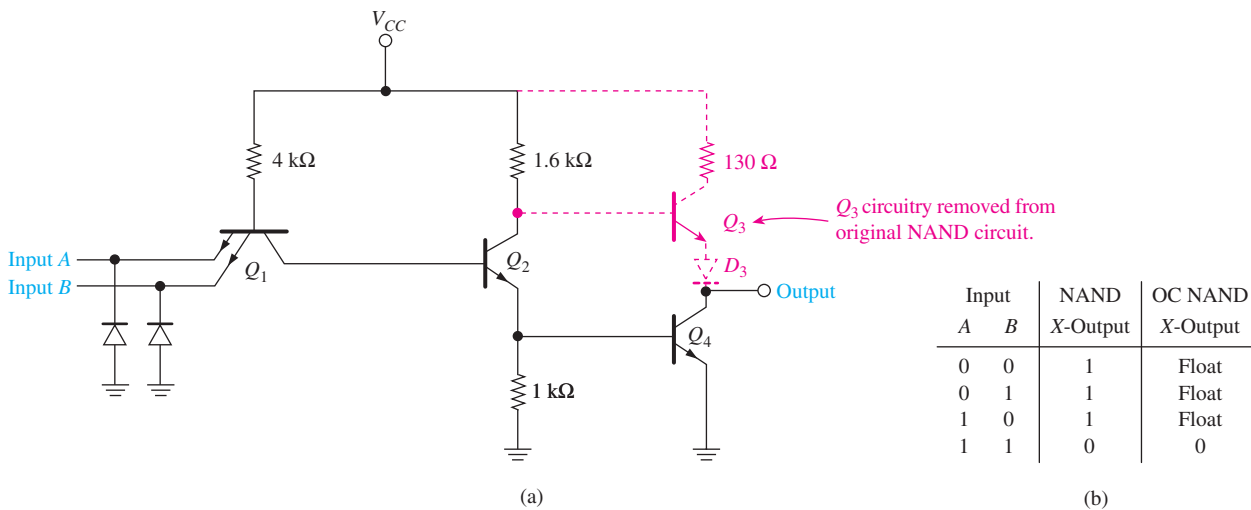

Figure 13 TTL NAND with an open-collector output: (a) circuitry; (b) truth table.
Instead of using a totem-pole arrangement in the output stage of a TTL gate, another arrangement, called the **open-collector (OC) output**, is available. Remember that, with the totem-pole output stage, for a LOW output the lower transistor is ON and the upper transistor is OFF, and vice versa for a HIGH output, whereas with the OC output the upper transistor is *removed*, as shown in Figure 13(a). Now the output will be *LOW* when Q_4 is ON, and the output will *float* (not HIGH or LOW) when Q_4 is OFF. This means that an OC output can sink current, but it *cannot* source current. The truth table comparing a NAND (74LS00) to an open-collector NAND (74LS01) is shown in Figure 13(b).